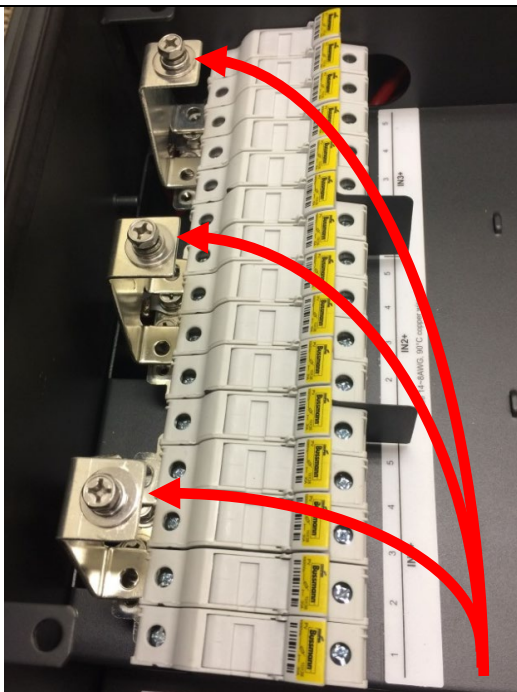
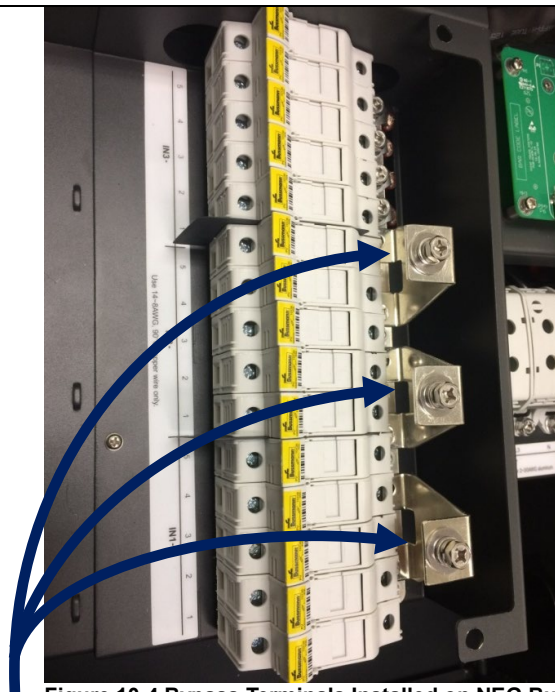

Figure 10-3 Bypass Terminals Installed on POS Input
Figure 10-4 Bypass Terminals Installed on NEG Bus
4. Use a No. 2 Phillips head screwdriver to install the Bypass Terminals on each bus by fastening each terminal with the M4 screws. Torque value of 14 in-lbs (1.6 N.m) (Figure 10-3 and Figure 10-4).
5. Use a No. 10 wrench to fasten the three pairs of DC input cables to each of the Bypass Terminals at IN1+, IN2+, IN3+ (Figure 10-3) and IN1-, IN2-, IN3- (Figure 10-4) with the M6 screws. Torque value of 50 in-lbs (6.0N.m.).